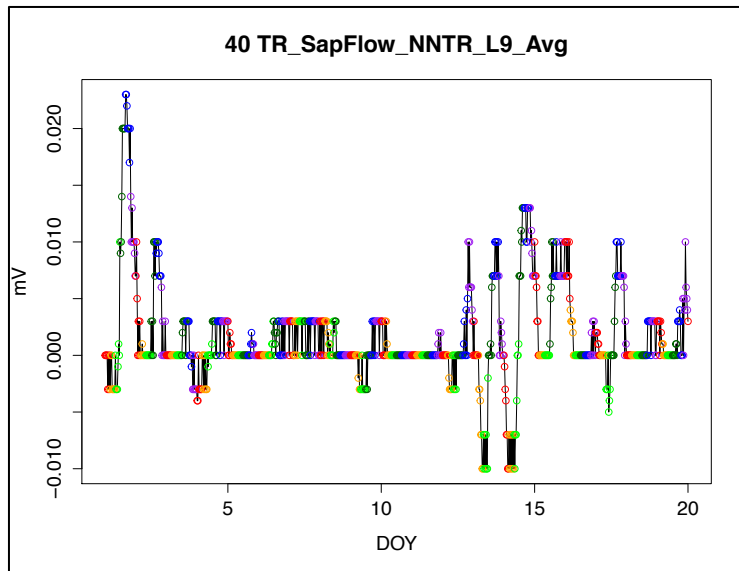

Figure 5.7 Bad Data— offline sensor. Data without any trend or that averages around zero indicates the sensor is offline. All this data should be deleted.
- Dead_Sensor: is offline, similar to Figure 5.7. All data should be deleted